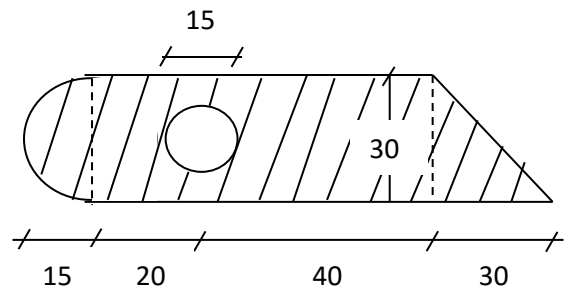
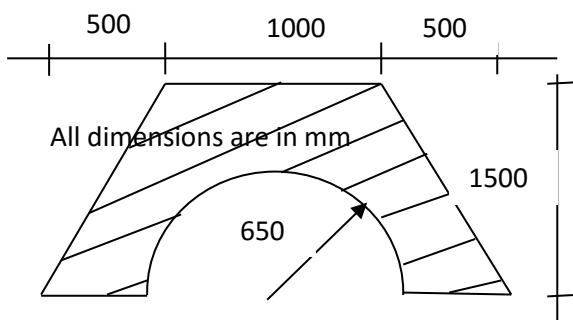
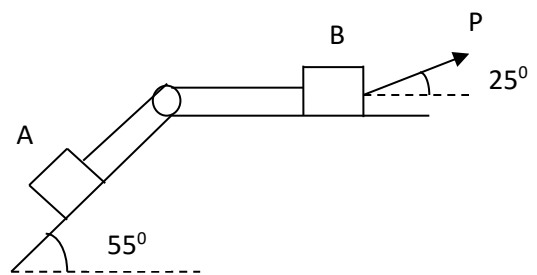

Figure 4
Figure 5
Figure 6
- 12 a) For the shaded area shown in **Figure 4**, find the position of centroid. (7)
b) State the Theorems of Pappus and Guldinus. (3)
- 13 The cross-section of a plain concrete culvert is shown in **Figure 5**. Determine the moment of inertia about the centroidal axes. (All dimensions are in mm.) (10)
- 14 a) State the laws of dry friction. (3)
b) Two blocks A and B weighing 3 kN and 1 kN are connected by a wire passing over a smooth frictionless pulley as shown in **Figure 6**. Determine the magnitude of force P required to prevent movement of block A down the plane. Take coefficient of friction between the planes and blocks as 0.2. (7)